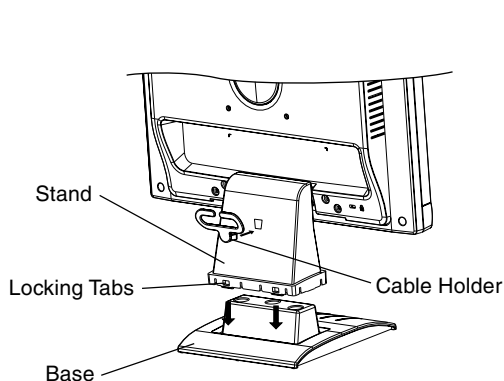

Figure S.1
1. Insert the front of the LCD stand into the holes in the front of the Base (**Figure S.1**).
2. Next, position the locking tabs on the back side of the LCD stand with the holes on the Base. Lower the Stand in place until locking tabs are secure (**Figure S.1**).
1. Insert the tabs of Cable Holder into the hole of Stand neck (**Figure S.1**).